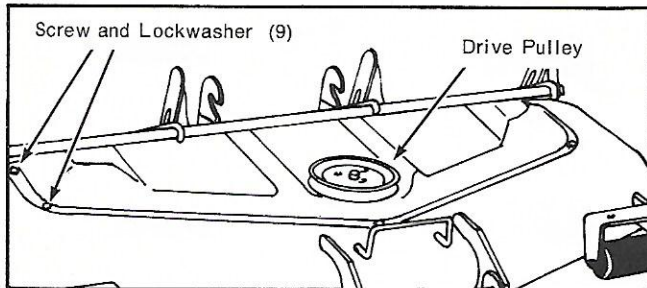

Figure 8
2. Take the drive pulley off by removing the three smaller screws and lockwashers. Do not remove the larger screw from the hub (See Fig. 8).
3. Remove 9 screws and lockwashers from around the belt cover and carefully remove it from the mower (See Fig. 8).